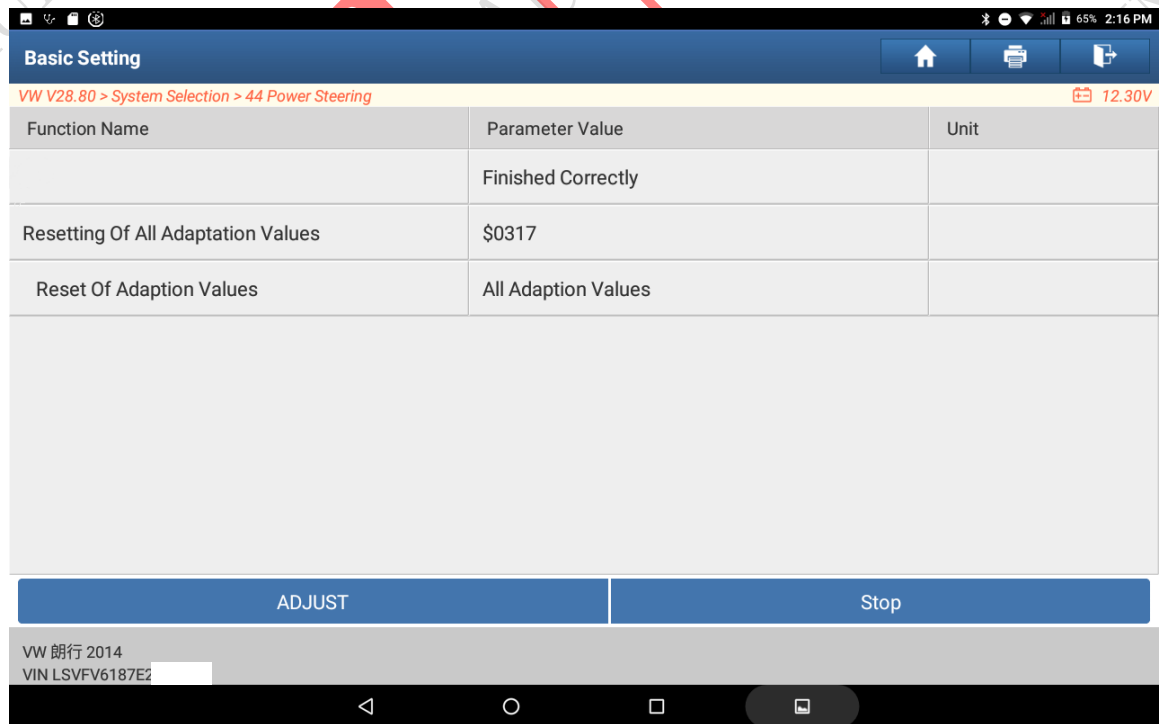

Figure 5
5. Perform [Resetting of All Adaptation Values]. See Figure 5. After it is successfully performed, take the next step.